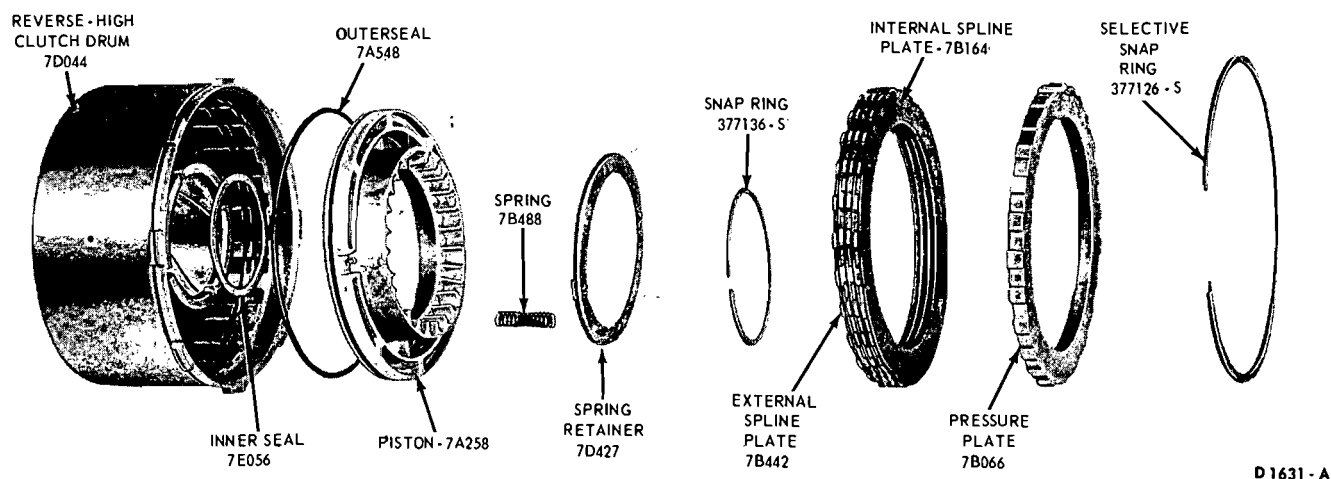

FIG. 53—Reverse-High Clutch Disassembled
2. Remove the pressure plate and the drive and driven clutch plates (Fig. 53).
6. Remove the piston outer seal from the piston and the inner seal from the clutch drum (Fig. 53).
5. Dip the clutch plates in clean transmission fluid. Install the clutch plates alternately starting with a steel drive plate and a composition plate (Fig. 53).